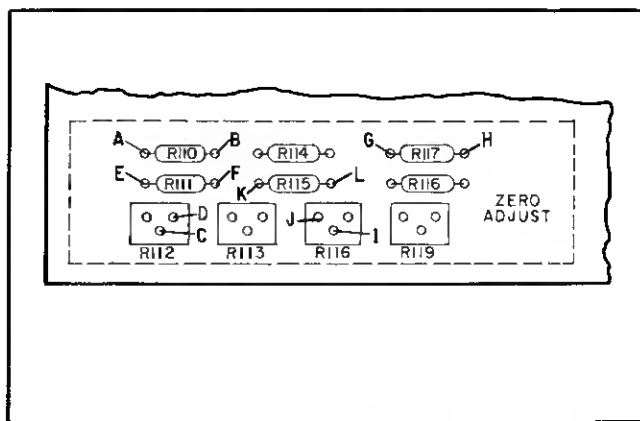

Figure 5-9. Zero Adjust Section of Main Circuit Board
- c. Connect decade resistance box between pads in zero adjust section of A1 main circuit board that are marked "A" and "B" in Figure 5-9. (These pads are for R110).
- b. Solder a jumper between pads in zero adjust section of A1 main circuit board that are marked "C" and "D" in Figure 5-9.
- c. Connect decade resistance box between pads marked "E" and "F" in Figure 5-9. (These pads are for resistor R111).
- c. Connect decade resistance box between pads in zero adjust section of A1 main circuit board that are marked "G" and "H" in Figure 5-9. (These pads are for R117.)
- Solder a jumper between pads in zero adjust section of A1 main circuit board that are marked "I" and "J" in Figure 5-9.
- Connect decade resistance box between pads marked "K" and "L" in Figure 5-9. (These pads are for R115.)